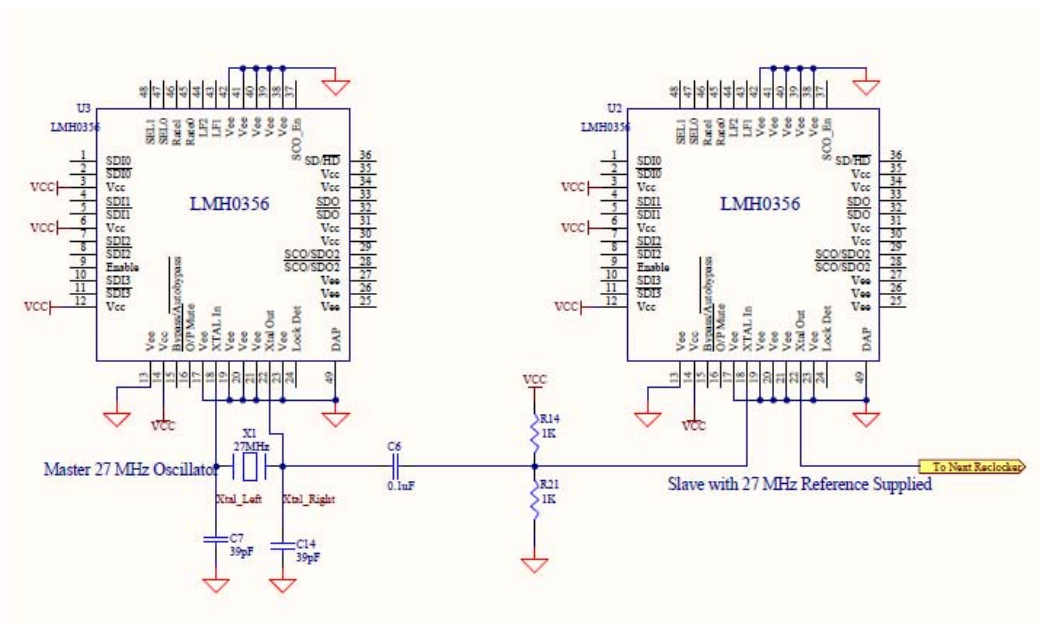

FIGURE 5 - Recommended Reference Clock Daisy-Chain Design with AC Coupling Between the Reclocker Reference Stages
We have also investigated the effects of different architectures for coupling the reference clock from one reclocker to another. For reclockers on a single board, optimum reference clock daisy-chain performance is achieved by coupling the XTAL OUT output of each reclocker to the XTAL IN input on the next reclocker using an AC coupling capacitor of 0.1 μ F and a bias resistor divider network of two 1K Ω resistors (FIGURE 5). Other coupling schemes may also be used with certain performance tradeoffs.
The circuit shown in FIGURE 5, AC coupled with 1KΩ terminations, is the recommended circuit configuration for daisy-chaining the reference clock. The placement of the coupling capacitor and the voltage divider resistors on the board is not critical as long as the transmission line between the reclockers is kept electrically short. A good rule of thumb for the length of this transmission line is the same as the rule of thumb for the length of an unterminated stub on a PC board. The length of the transmission line in inches (L) should be less than or equal to the rise time of the signal in ns (T_R). For the 27 MHz reference, $T_R \approx 4$ ns, so we should design for $L \leq 4$ ".
With the termination networks, both AC and DC coupling between reclocker stages provide reliable operation. AC coupling provides more robust operation. Therefore, the recommended circuit architecture for daisy-chaining the 27 MHz reference signal through a series of reclockers is the AC-coupled, 1K Ω -terminated circuit configuration shown in FIGURE 5.
The 27 MHz reference signal required by the National Semiconductor LMH0XX6 family of SDI reclockers can be shared among multiple reclockers by daisy-chaining the reference signal from one reclocker to the next. For reclockers on a single board, the XTAL OUT output of each reclocker may be coupled to the XTAL IN input on the next reclocker using an AC coupling capacitor of 0.1 μ F and a termination resistor divider network of two 1K Ω resistors. This configuration is shown in FIGURE 5. This configuration provides stable propagation of the reference clock for a cascade of 8 to 32 reclockers.